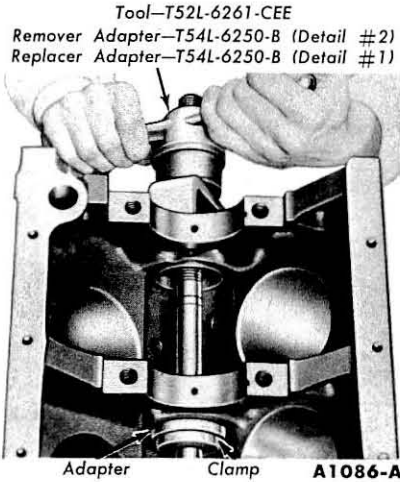

FIG. 17—Camshaft Bearing Replacement
2. Remove the camshaft bearings (Fig. 17).